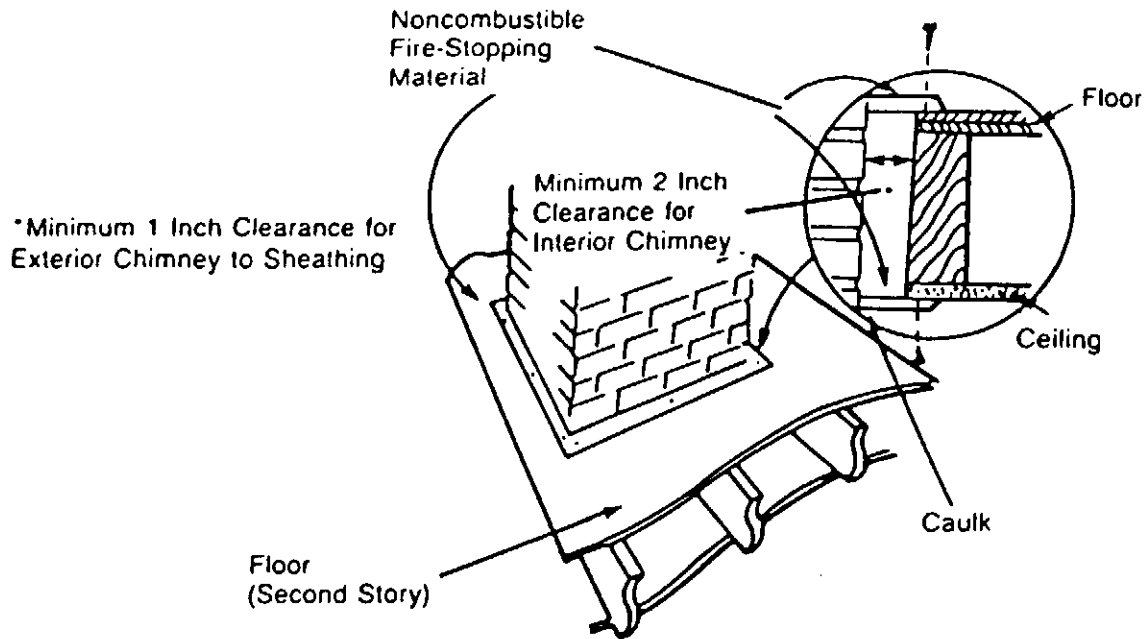

Fig. 10, Fire Stopping
3. A chimney inside the house must have at least 2 inches of clearance to the combustible structure. A chimney outside the house must have at least one inch clearance to the combustible structure. Fire stops must be installed at the spaces where the chimney passes through floors and/or ceiling (Fig. 10).